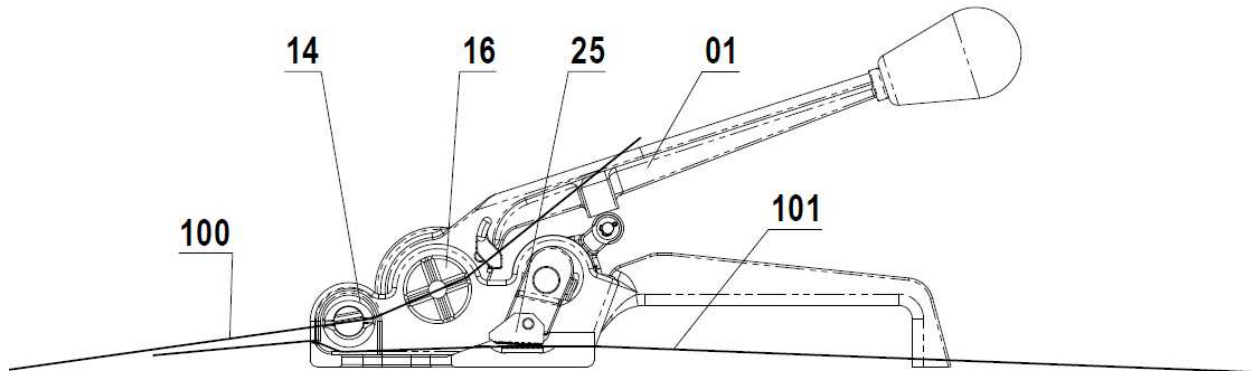

Fig. 3
2. Load upper strap **100** through **Cutter Housing 14**, through **Windlass 16** as shown on Fig. 3.